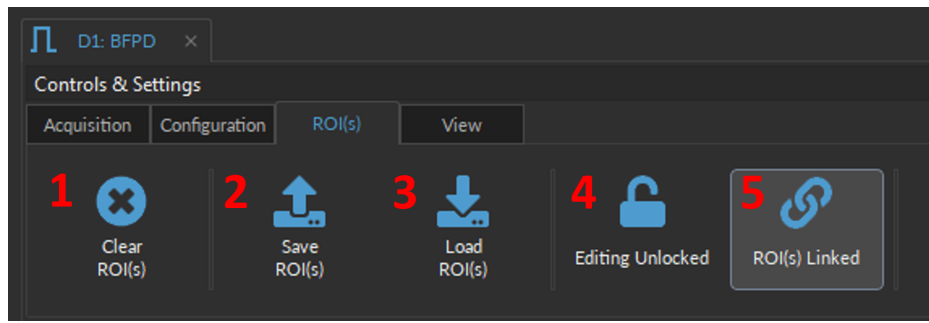

Figure 9.10: ROI(s) Tab
The **ROI(s) Tab** (Fig. 9.10) contains parameters to save, load, clear, or edit bundle fiber photometry ROI(s).
1. The **Clear ROI(s)** button (Fig. 9.10, 1) deletes all drawn regions of interest (ROI) within the **Camera View**. Note that unless the ROI(s) were previously saved, these ROI(s) cannot be recuperated.
2. The **Save ROI(s)** button (Fig. 9.10, 2) saves the region of interests drawn in the **Camera View** in a *.doric* file, so that the identical ROI can be re-imported into the module at a later time. At least one ROI must be drawn for this feature to work.
3. The **Load ROI(s)** button (Fig. 9.10, 3) imports a previously saved *.doric* file. Note that this ROI(s) configuration can be edited, but must be re-saved in order for changes to be conserved.
4. The **Editing Unlocked** button (Fig. 9.10, 4) when enabled prevents new ROI(s) from being drawn, but does not prevent moving or reshaping a selected ROI (see section 9.5.2).
5. The **ROI(s) Linked** button (Fig. 9.10, 5) automatically redraws identical ROI(s) in the other CAM# excitation tabs (Fig. 9.41, 1) within the **Camera View**. **Unlinking** previously linked ROI(s) deletes the ROI(s) from the **Camera View**. Note that it is preferred to uncheck **ROI(s) Linked** between cameras in order to move and resize ROI on each camera window independently to properly select the optical fibers.